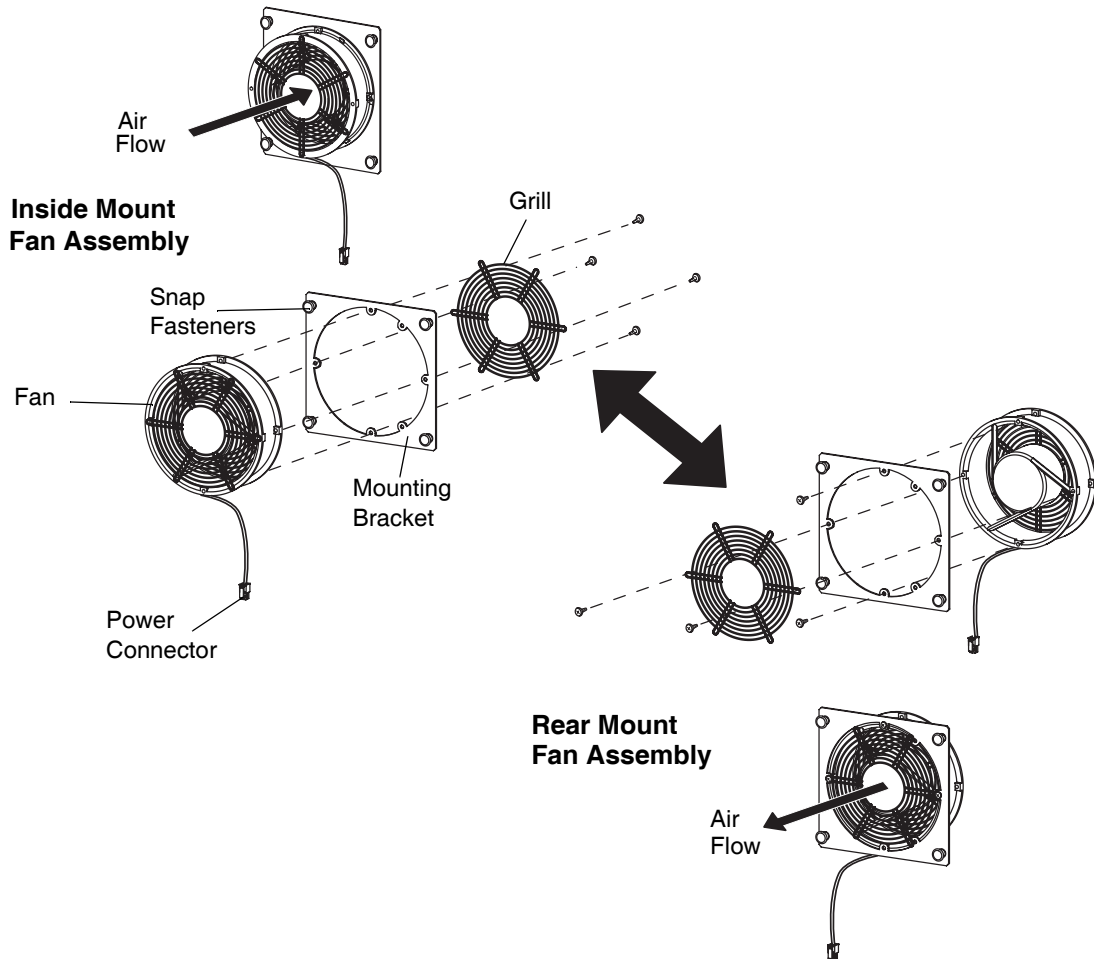

Figure 4-4 Fan Inside Mount to Rear Mount Conversion
To convert the subrack fan from inside mount to rear mount, as shown in Figure 4-4, perform the steps in Table 4-6.
2.	Disassemble inside mount fan assembly as shown in Figure 4-4
3.	Reassemble inside mount fan assembly into rear mount configuration shown in Figure 4-4. Maintain orientation of fan to ensure air is exhausting out rear of subrack